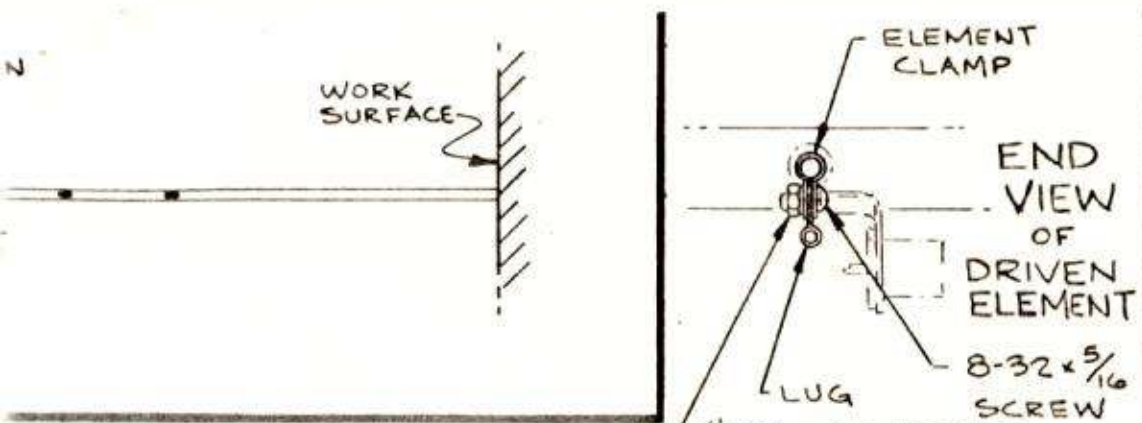

Figure 6
- B. See figure 6. Assemble element clamps and lugs to the driven element. Lugs are to fit between clamp tabs. Secure clamp hardware very tightly. Note that scribe marks have been placed on the element at the specified $10\frac{1}{4}$ " clamp spacing.